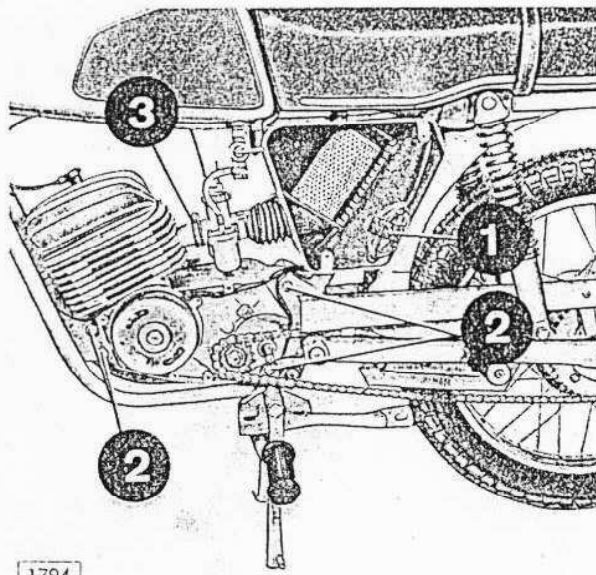

Fig. 3: Engine mounting bolts
4. Open chain master link and remove chain from the gearbox sprocket, disconnect leads of the generator at the connecting terminal (fig. 3/1) in the compartment and take off cable plug from the spark plug.
6. Unscrew the nuts of the four engine mounting bolts and remove the bolts (fig. 3/2).
7. Unscrew the carburetor clamping screw (fig. 3/3), pull the carburetor from the intake pipe and let it hang on the throttle cable. Now remove the engine, in r. h. s. direction, from the frame.